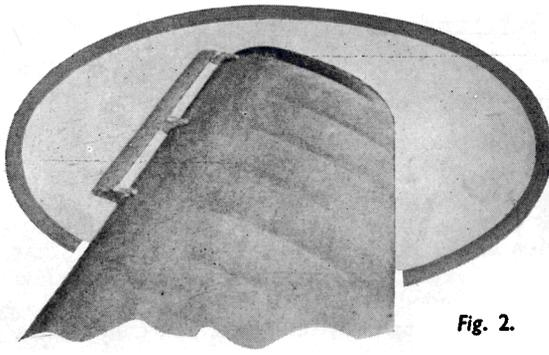
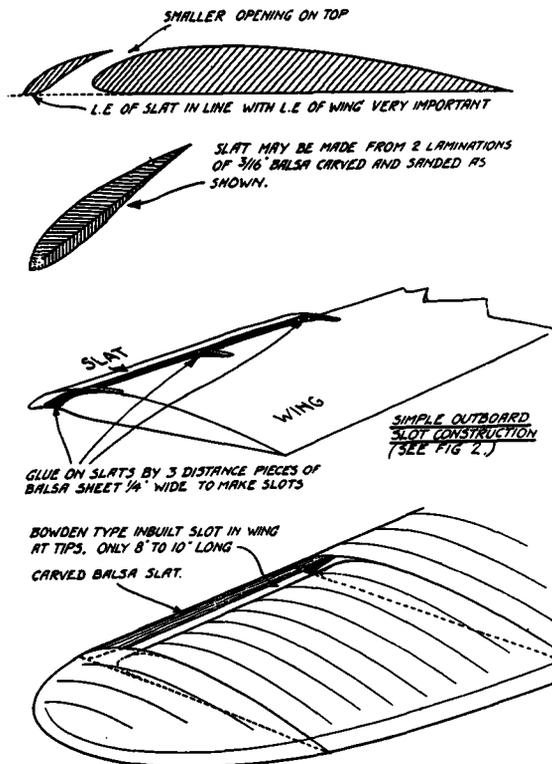
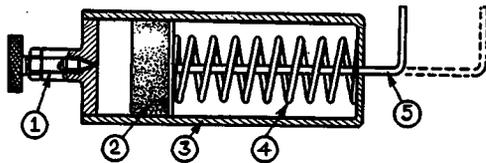

Fig. 2.
Fig. 3. Wing-tip slottery.
Fig. 1. A typical pneumatic timeswitch : (1) Adjustable air leak ; (2) cup washer ; (3) barrel ; (4) return spring ; (5) actuating plunger rod.
I noticed one model with these slots and it did a nice first flight, but was undertimed by its owner. The second flight failed to obtain the necessary r.p.m. to take-off, because a bulkhead had come forward and was masking the induction pipe of the engine. I have already explained how to prevent such a state of affairs in Fig. 1. People probably say, "But how difficult this slot business is; I cannot be bothered." Actually it is enormously simple, and I will briefly explain it at the end of this sub-heading. (See Fig. 3.)
tion to fit slots and slightly greater angles of incidence to obtain quick take-off and controlled nose up landings for competition work, and yet does not want to build a special wing with my type of inbuilt slots, I would suggest he first tries outboard slots, as shown in Fig. 2 and Fig. 3. These are very simple and can be made and fitted in an evening to any existing wing. They work well, too. The only thing that is essential is to see that the gaps of both wing-tip slots are the same and that the L.E. of the slot is fitted in the same position in relation to the L.E. of the wing, on both wings. You will also find that the best position for a model slot is with the L.E. of the slot placed
directly in front of the L.E. of the wing. (See my sketch, Fig. 3.)
This principle also has the advantage of being delightfully simple. A typical pneumatic timeswitch is shown in Fig. 1, and before the war at least two proprietary types of pneumatic petrol model timers were produced in the United States. The standard models weighed $\frac{5}{8}$ oz. and the lightest $\frac{3}{8}$ oz.
Fig. 2. Some features essential to success : (1 and 2) Discs supporting the cup washer well up to the barrel bore ; (3) bevelled-edge cup washer of barrel shape.